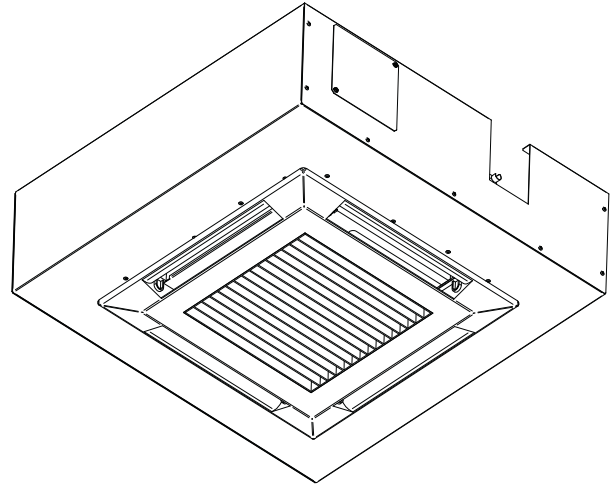

Fig. 66 — Unit, Shroud and Fascia Assembly
8. Once the shroud is secured to the unit, the fascia can be installed per the Installation and Service manual provided with the unit. See Fig. 66.